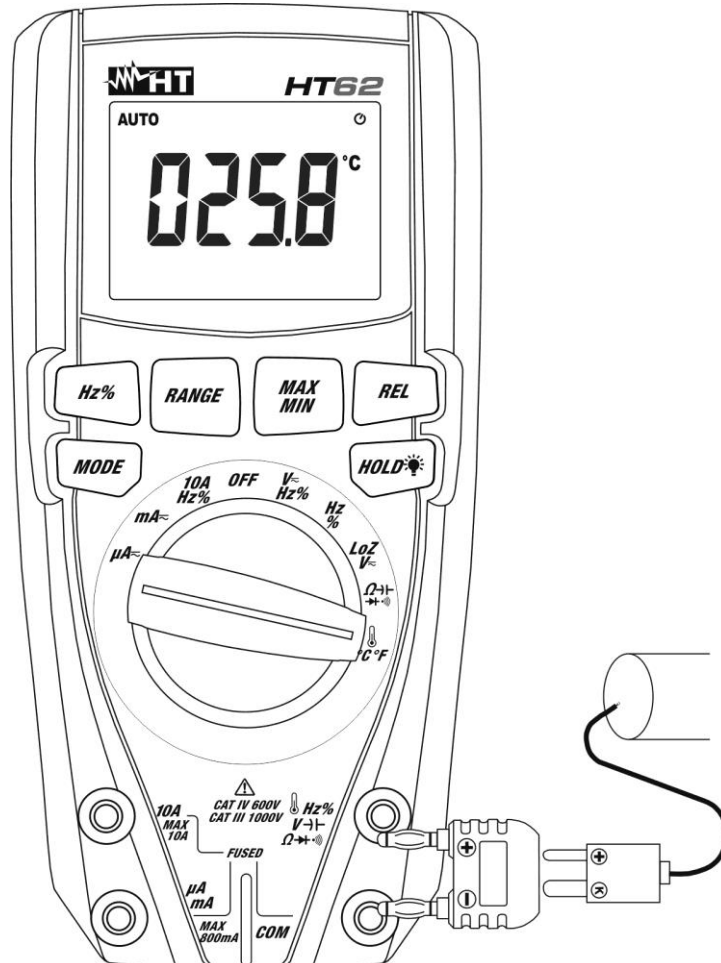

Fig. 9: Use of the instrument for Temperature measurement
3. Insert the provided adapter into input terminals Hz%V- Hz% (polarity +) and **COM** (polarity -) (see Fig. 9)